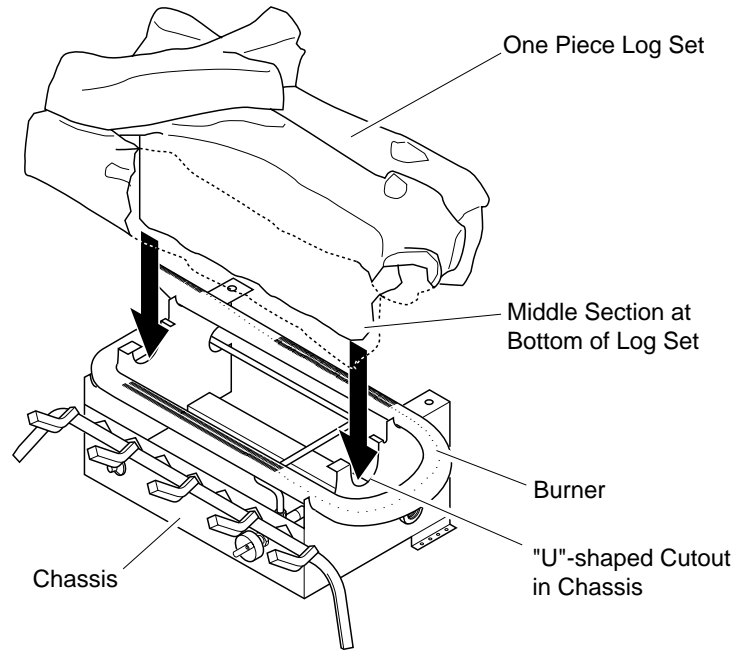

Figure 19 - Installing Premium One-Piece Log Set
1. Place one-piece log set on grate to fit as illustrated in Figure 19. Make sure middle section at bottom of log set is seated into "U"-shaped cutout in center of chassis (see Figure 19). Log will fit securely on chassis. **IMPORTANT:** Make sure log does not cover any burner parts.